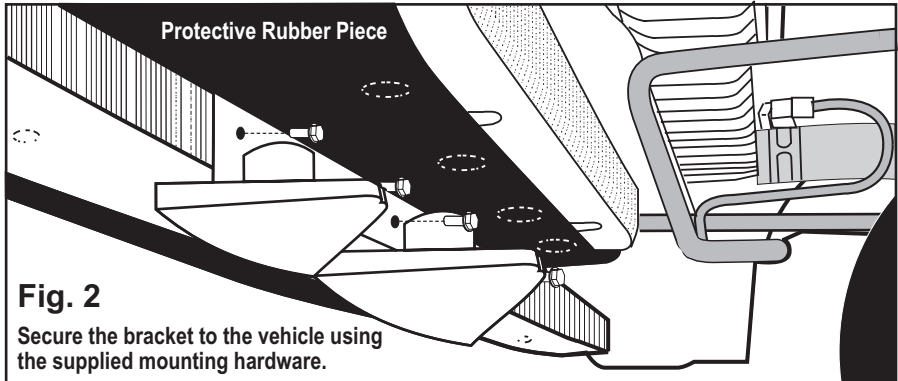

Fig. 2
2. Drill out the 4 rivets shown in Fig.2 to create clearance holes for the supplied mounting hardware.